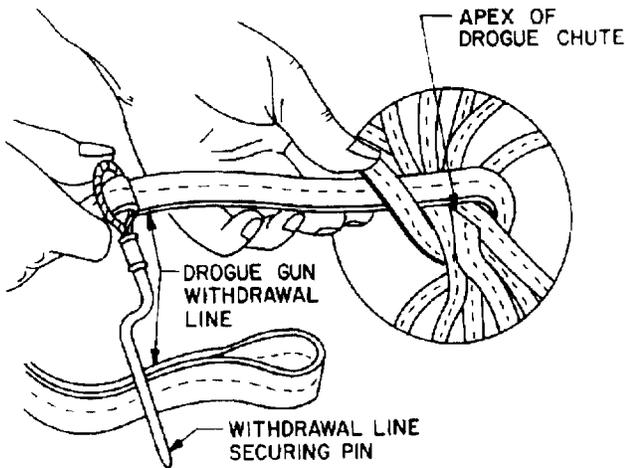

Figure 1. Attachment of Withdrawal Line to Vent Lines
g. Verify correctness of all markings. (QA)
d. Pass loop end of drogue gun withdrawal line closest to drogue container locking pin around vent lines at canopy peak. Pass opposite end of withdrawal line thru loop and pull tight, securing withdrawal line to vent lines (Figure 1). (QA)